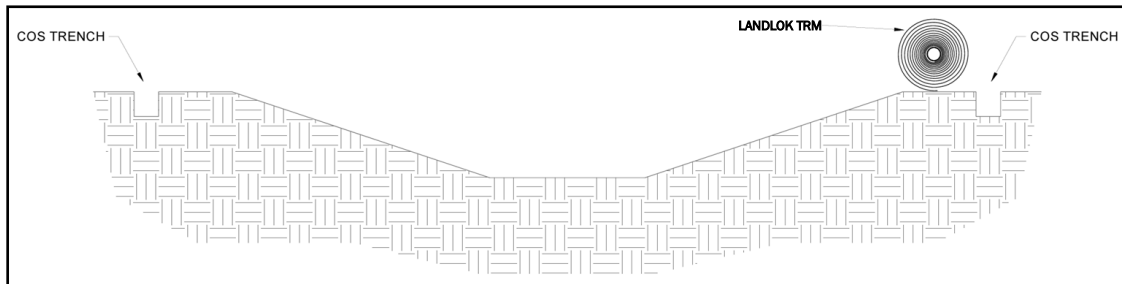
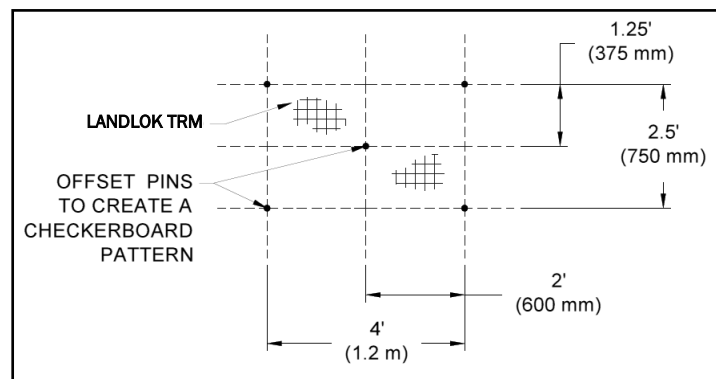
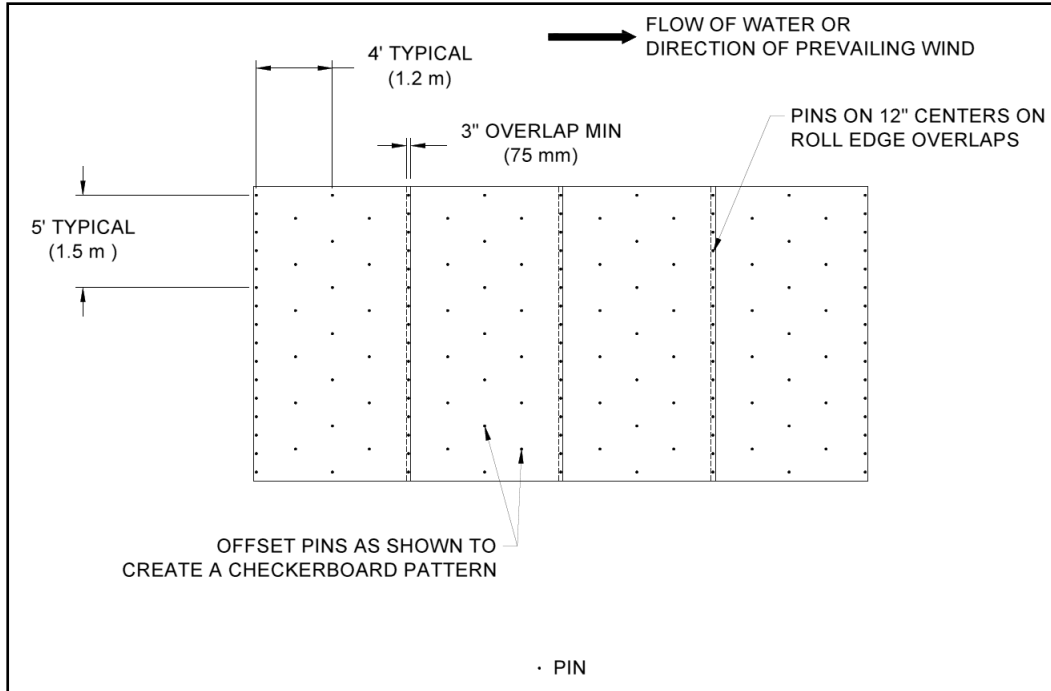

Figure 9: Crest of Slope (COS) Trench Alignment
Figure 12: Example Pin Pattern
Figure 13: Example Edge Overlap Pattern
6. Place the next LANDLOK panel by laying the LANDLOK roll so that the roll end points towards the COS trench (Figure 9), with a 3 inch (75 mm) overlap created at adjacent panel edge locations. Ensure that adjacent panel edges maintain a minimum 3 inch (75 mm) overlap during *LANDLOK Laydown*. (Figure 13)
7. Secure LANDLOK panels in place using pins across the channel surface according to the project's engineered design. Pin placement should reflect a staggered checkerboard pattern across the channel surface for best results (Figure 12 and Figure 13).
- Roll edges shall be overlapped a minimum of 3 in (75 mm) with pins placed on 12 in (300 mm) centers (Figure 13).
10. Continue to work down the length of the channel by repeating steps 6 through 9 overlapping each adjacent LANDLOK panel by 3 inches (75 mm) (Figure 13). The last LANDLOK panel should terminate on the Terminal Channel (TC) trench with pins on 12 in (300 mm) centers